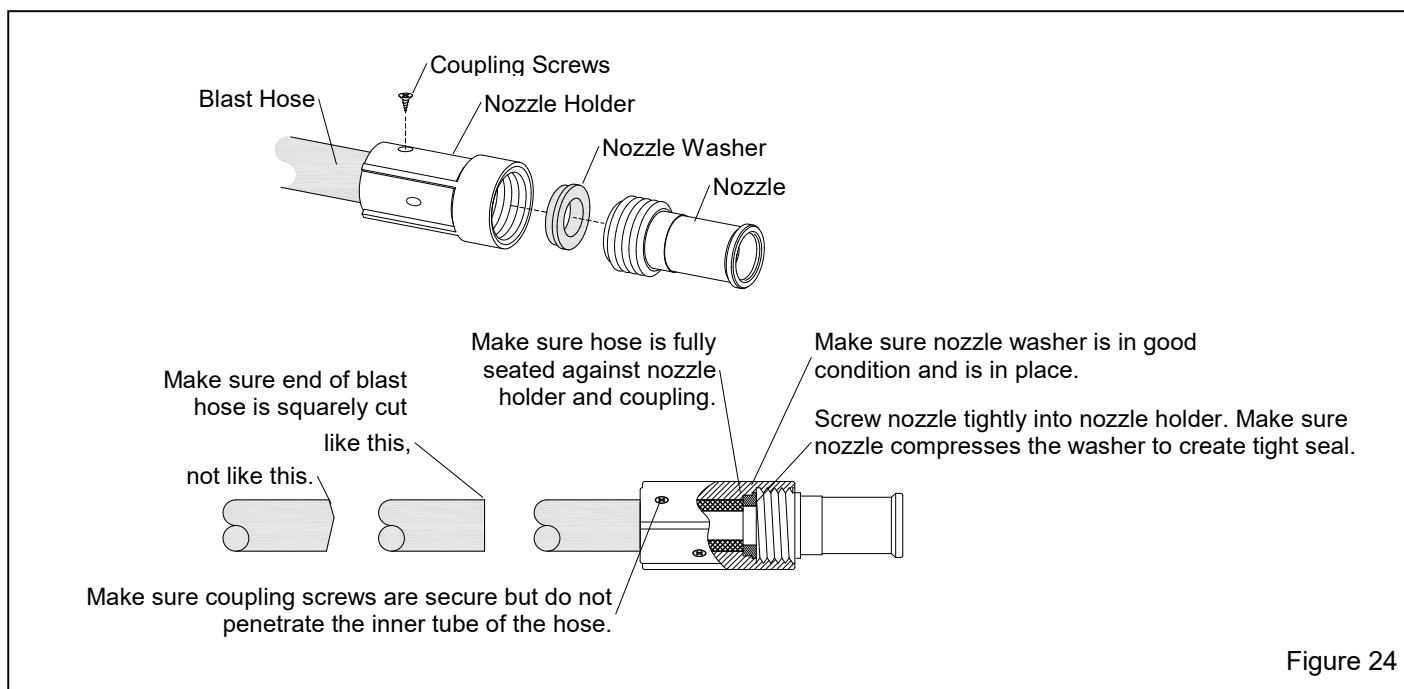

Figure 24
7.2 Blast Hose and Nozzle – Figure 24
7.2.2 When replacing blast hose, make sure the hose is square cut and that it is fully inserted into the nozzle holder and coupling until it sits tightly against the shoulder in the holder and coupling, as shown in Figure 24. Make sure correctly sized screws are used to secure the nozzle holder and blast-hose coupling. Screws should not penetrate the inside of the blast hose.